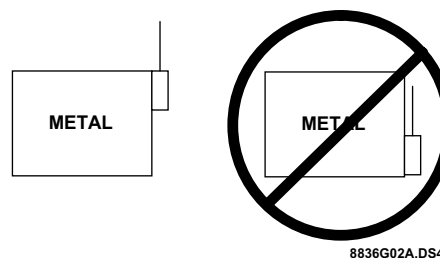

Figure 5. When Mounting on Metal is Unavoidable
- or-- If unavoidable, mount on metal with the antenna extending above the metallic surface (see Figure 5).